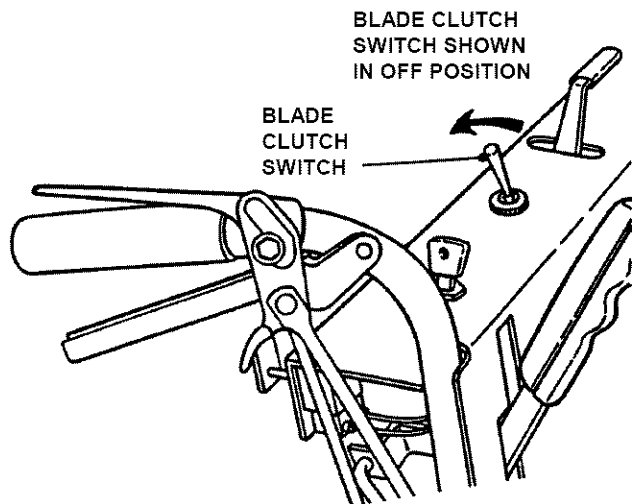

FIGURE 3.8
- 14.** Pull the Blade Clutch Switch backward to the **OFF** position. See Figure 3.8.
- 15.** Place the Transmission Shift Lever into the NEUTRAL (N) position.
- 17.** Stop engine. Turn key switch to "OFF" position. See Figure 3.8.